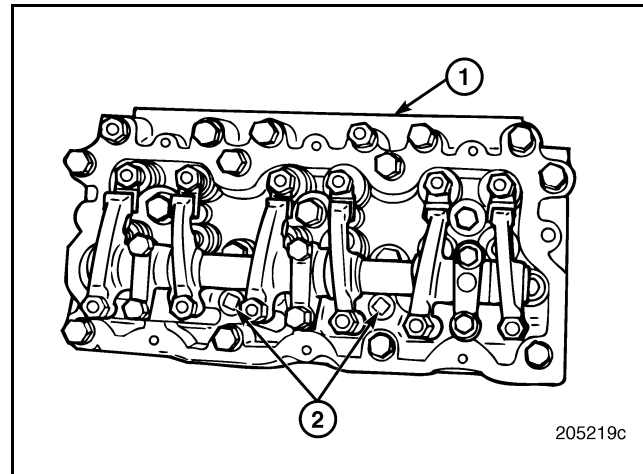

Figure 63 — Cylinder Head Pipe Plugs (3/4-Inch NPT)
1. Look for coolant stains around the 3/4-inch NPT pipe plugs on top of the cylinder heads. Check plug torque. The plug torque specification is 55 lb-ft (75 N•m). Refer to Figure 63.